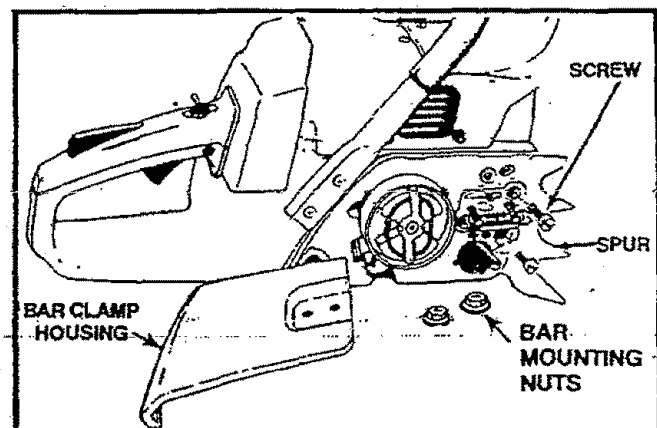

Figure 7
2. Align the spur over the two holes on the bar clamp side of the saw. Figure 7.